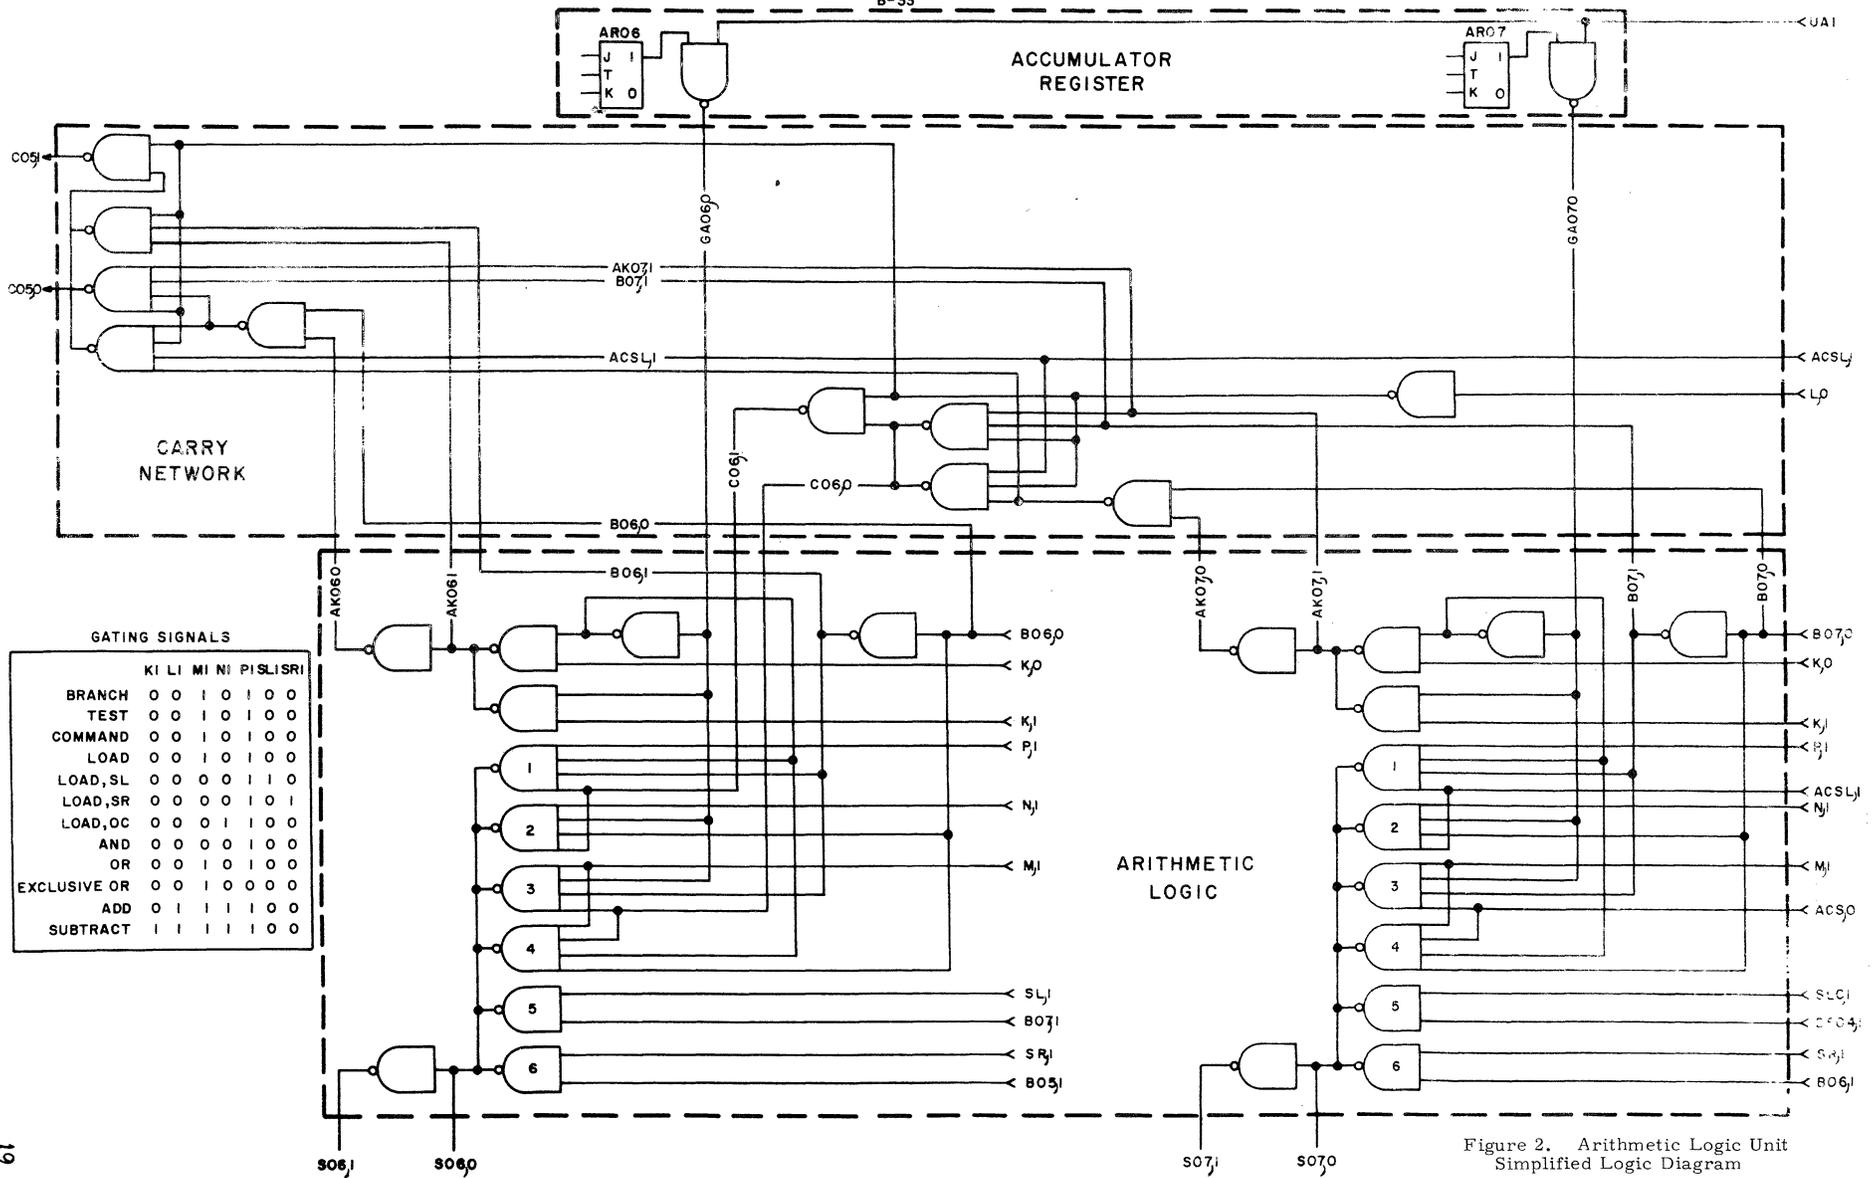

Figure 2. Arithmetic Logic Unit Simplified Logic Diagram
The Arithmetic Logic Unit (ALU) consists of logic to perform all required arithmetic, shift, and Boolean connect functions. The ALU is byte oriented, and may be divided into three functional groups: an A Register, summing logic, and carry logic. See Figure 2. The B Bus provides the operand for shift operations, and one of the operands for arithmetic and Boolean connect operations. The second operand for arithmetic and Boolean connect operations is the contents of the A Register. The A Register is loaded from the S Bus, prior to the arithmetic or Boolean connect operation.
The ALU receives seven control inputs from the op-code decoder. These inputs are briefly defined in the following list, and are summarized on the table associated with Figure 2.
Each of the micro-instructions which uses any portion of the ALU is described in the following paragraphs. Unless otherwise noted, all gate references in the following paragraphs refer to the arbitrary designations on Figure 2.
3.4.1 Load, Load Immediate, Branch, Command and Test. These micro-instructions cause the contents of the B Bus to pass unaltered through the ALU to the S Bus. This function is performed by Gate 3 of the summing circuit (Figure 2).
Since these are not arithmetic micro-instructions, the carry circuit is disabled ( $L_1 = 0$ ). This forces all carry circuit outputs high. Also, since these micro-instructions do not have a second operand, the A Register (AR) is not unloaded ( $UA_1 = 0$ ). This forces the  $GA_{n0}$  leads high, and the  $GA_{n1}$  leads low. Signal  $M_1$  is high at this time, and Signals  $N_1$ ,  $SL_1$ , and  $SR_1$  are low as shown on the table on Figure 2.
Signals  $SL_1$  and  $P_1$  are high during a Shift Left, and Signals  $K_1$ ,  $L_1$ ,  $N_1$ ,  $M_1$ , and  $SR_1$  are low (see the table on Figure 2).
forces the  $GA_{n0}$  leads high and the  $GA_{n1}$  leads low. Signal  $N_1$  is high at this time, and Signals  $M_1$ ,  $SL_1$ , and  $SR_1$  are low as shown on the table on Figure 2.